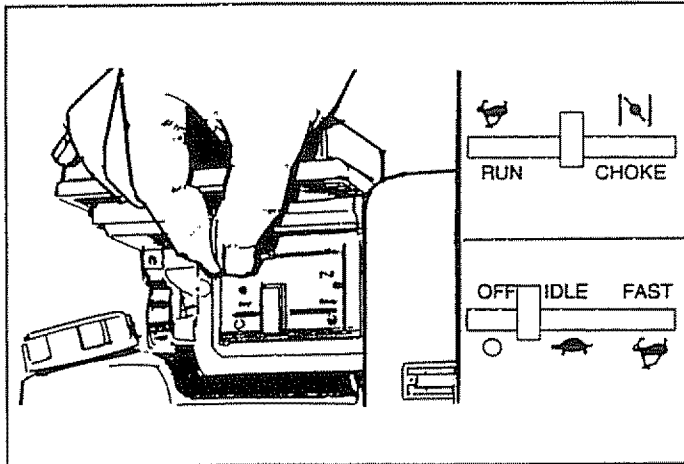

FIG. 19
- Move engine control lever to CHOKE position (Fig. 19).